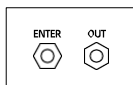

Fig.2
1. Using the control panel, located on the upper right-hand of the fireplace (Fig.2).